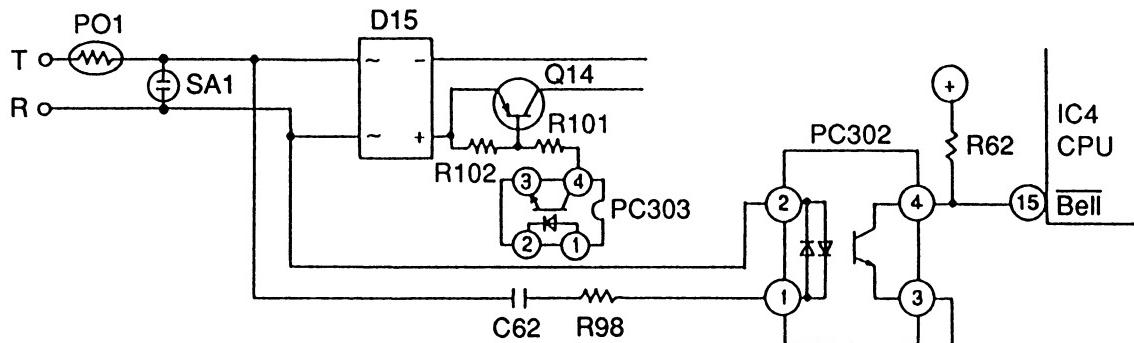

Fig. 37
Therefore, if the low/high ratio is greater than 45% at IC4-⑯ (CPU), it is judged as a ring signal. See Fig. 37.